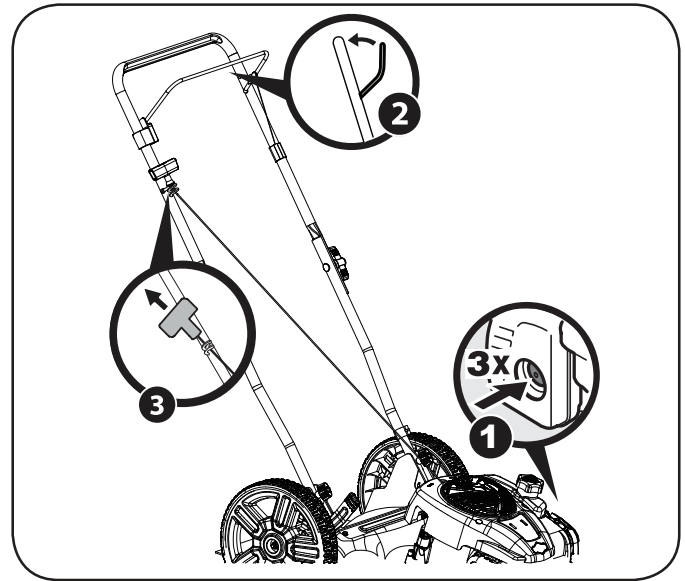

Figure 10
3. While holding the blade control against the upper handle, grasp the recoil starter handle and pull rope out with a rapid, continuous, full arm stroke. Keeping a firm grip on the starter handle, let the rope rewind slowly. Repeat until engine starts. Let the rope rewind each time slowly (Figure 10).